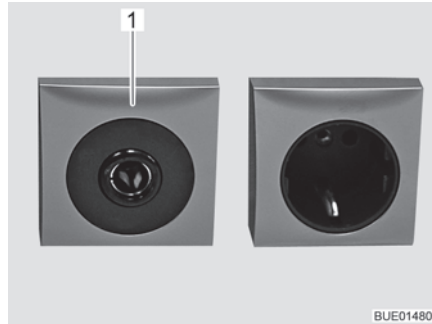

Fig. 116 12 V/10 A socket
- ▷ Only connect devices with a maximum of 10 A to the sockets (Fig. 116,1) of the 12 V power supply.